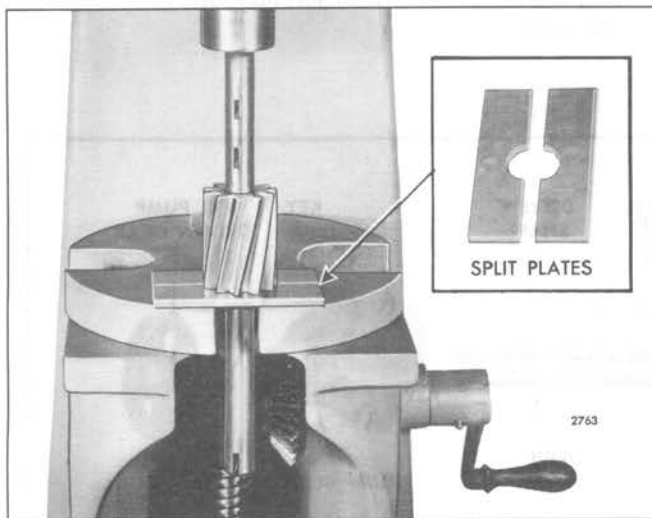

Fig. 12 – Pressing Oil Pump Gear From Shaft
8. Press the oil pump drive shaft out of the oil pump gear (Fig. 12).